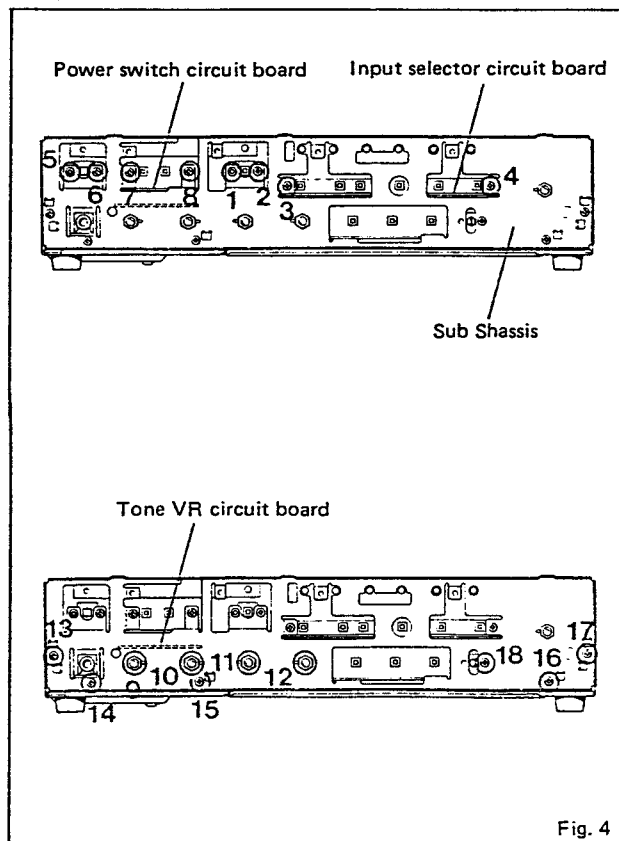

Fig. 4
Remove screws ① through ④ in Fig. 4 and then remove the input selector circuit board.
Remove screws ⑤ through ⑧ in Fig. 4 and then remove the power switch circuit board.
- b) Remove hexagonal nuts ⑪ and ⑫ in Fig. 4.
- c) Remove screws ⑬ through ⑱ in Fig. 4 and then remove the sub shassis.
- b) Remove hexagonal nuts ⑨ and ⑩ in Fig. 4. Remove the tone VR circuit board and then replace the VR.